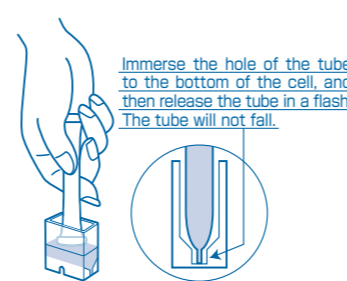

Fig.9
- Immerse the tube in the cell. Release the side and draw the eluent in the tube. (Fig.9)